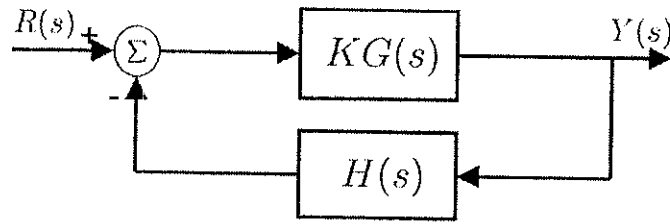

Figure Q3
- Q3 a) Consider the closed-loop system shown in Figure Q3. Forward transfer function $G(s)$ and feedback transfer function $H(s)$ can be written in terms of their corresponding numerator and denominator factored polynomials as;
- b) Consider the closed loop control system shown in Figure Q3 with